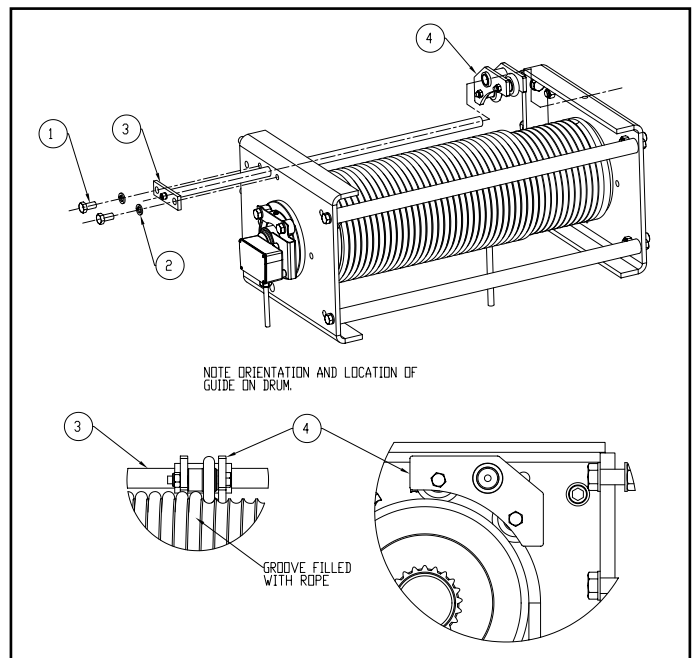

Figure 5-3b. Rope Guide Assembly ('D' Frame)
- (4) Remove the split plastic shroud (Item 2) from the drum. When reassembling the rope guide, be sure the plastic shroud (Item 2) fits snugly in the rope guide body groove.
- (5) Thoroughly clean and inspect all components.
- (6) Follow steps in reverse to reassemble. Be sure to re-grease the rope guide with MPG (Paragraph 4-7), after assembling.
- c) **Disassembly for "D" Frame.** Refer to Fig. 5-3b. For further assistance in locating components, refer to the parts list in Section IX.
- (1) Remove hex head cap screws and lock washers (Items 1 and 2). Pull back on drum frame rod assembly (Item 3) until the free end pulls free of the gearcase end drum bracket.
- (2) Slide the rope guide assembly (Item 4) off the end of the drum frame rod and remove from drum groove area. Note the required orientation of the rope guide assembly for re-installation.
- (3) Thoroughly clean and inspect all components.
- (4) Follow steps in reverse to re-install, paying attention to orientation and making sure to seat the assembly into the correct drum groove. Be sure to regrease the rope guide with MPG (Paragraph 4-7), after assembling.